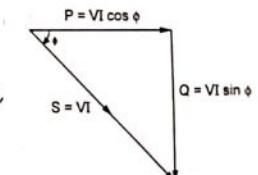

Fig. 3.6.4 Power triangle
• Hence, the power triangle can be shown as in the Fig. 3.6.4.